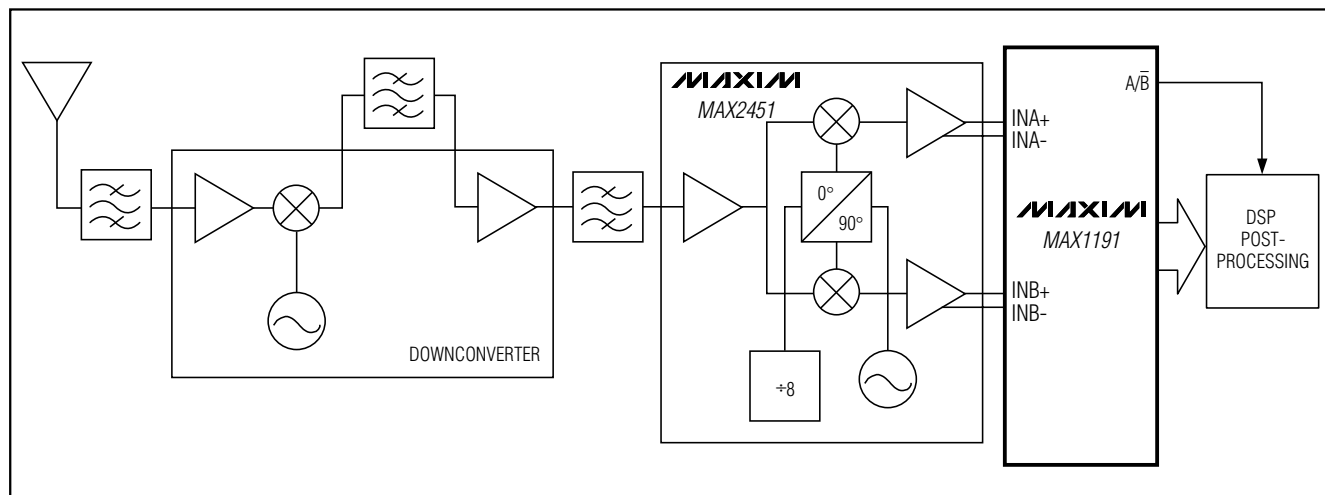

Figure 12. Typical QAM Receiver Application
Quadrature amplitude modulation (QAM) is frequently used in digital communications. Typically found in spread-spectrum-based systems, a QAM signal represents a carrier frequency modulated in both amplitude and phase. At the transmitter, modulating the baseband signal with quadrature outputs, a local oscillator followed by subsequent upconversion can generate the QAM signal. The result is an in-phase (I) and a quadrature (Q) carrier component, where the Q component is 90° phase shifted with respect to the in-phase component. At the receiver, the QAM signal is demodulated into analog I and Q components. Figure 12 displays the demodulation process performed in the analog domain using the MAX1191 dual-matched, 3V, 8-bit ADC and the MAX2451 quadrature demodulator to recover and digitize the I and Q baseband signals. Before being digitized by the MAX1191, the mixed-down signal components can be filtered by matched analog filters, such as Nyquist or pulse-shaping filters. The filters remove unwanted images from the mixing process, thereby enhancing the overall signal-to-noise (SNR) performance and minimizing intersymbol interference.